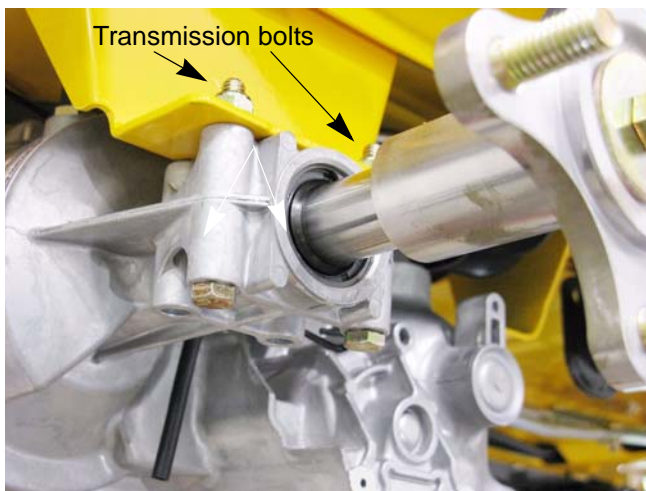

Figure 4.31
14. Remove the two bolts that fasten the transmission to the frame. See Figure 4.31.